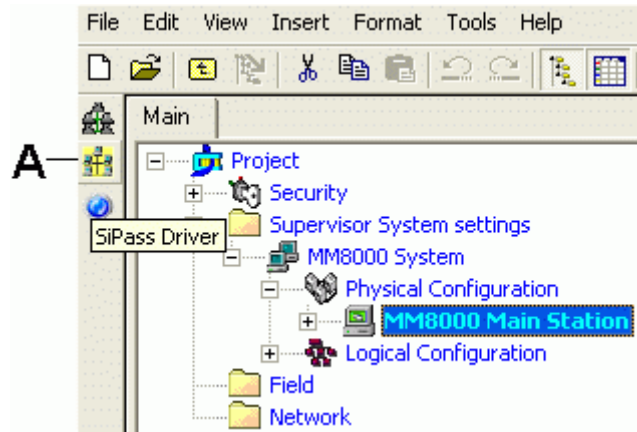

Fig 1 Adding the SiPass Driver (A)
The Fig 1 below illustrates how to add the SiPass driver to the MM8000 configuration:
2. Click the button A to add the driver (see Fig 1).